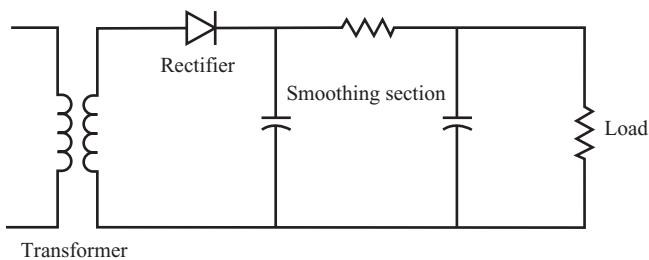

FIGURE 11.31
- 14** A basic power supply circuit can be divided into four sections, as shown in Figure 11.31.
- B.** Will the power supply circuit shown in Figure 11.31 result in full- or half-wave rectification? _____
- C.** What type of output will the rectifier section of the power supply circuit shown in Figure 11.31 produce? _____